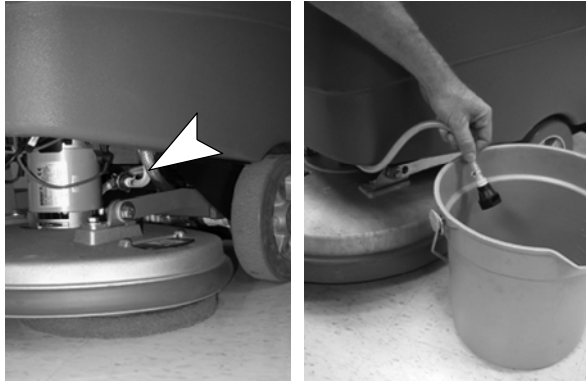

FIG. 67
3. Disconnect the black connector fitting at the scrub head and place the hose into a bucket (Figure 67). To access the connector fitting, you may have to remove the front cover from the machine.